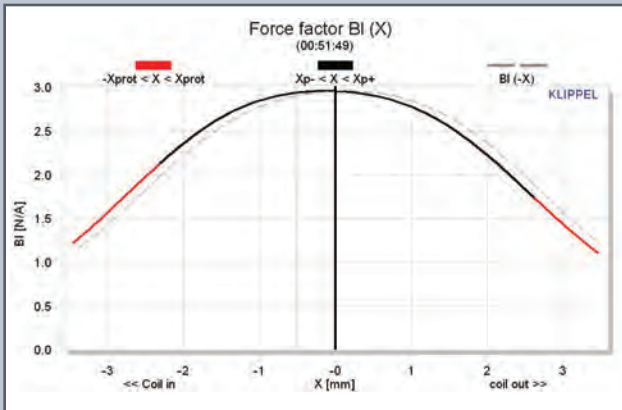
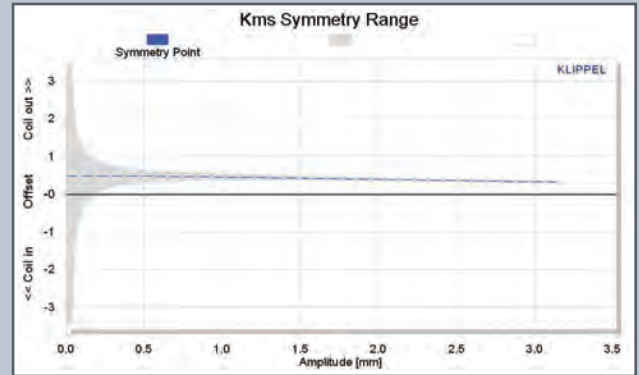

FIGURE 5: Klippel Analyzer BI (X) curve for the Wavecor FR070WA01.
FIGURE 8: Klippel Analyzer K_{ms} symmetry range curve for the FR070WA01.
Klippel analysis for the Wavecors 2.75" full-range (our analyzer is provided courtesy of Klippel GmbH), and testing performed by Pat Turnmire, Red Rock Acoustics, produced the Bl(X), Kms(X), and Bl and Kms symmetry range plots given in Figs. 5-8. The Bl(X) curve (Fig. 5) is relatively broad and symmetrical, especially for a short Xmax 2.75" diameter driver. Looking at the Bl symmetry plot (Fig. 8), this curve shows a trivial 0.11mm coil-in offset at the rest position that decreases to 0.09mm at the physical 2.0mm Xmax of the driver.